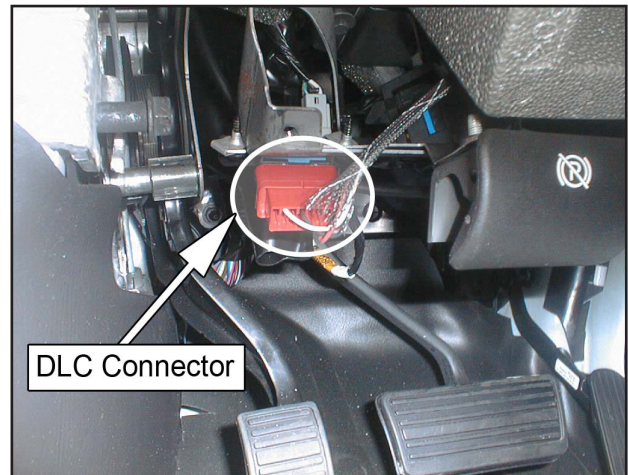

Figure 25. Route DLC Harness over Column to Data Link Connector
3. Route the DLC harness over the steering column to the Data Link Connector located just above the E-brake pedal. Make sure the harness is routed away from sharp edges and such that it does not come in contact with the driver's feet. Plug the harness in and secure with a wire tie or tape to prevent it from vibrating out over time. See Figure 25.